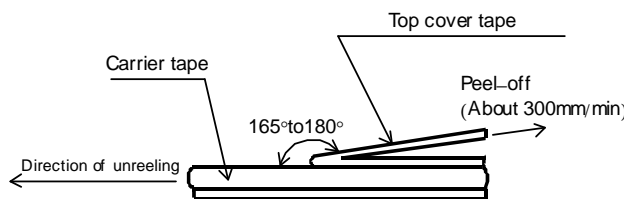
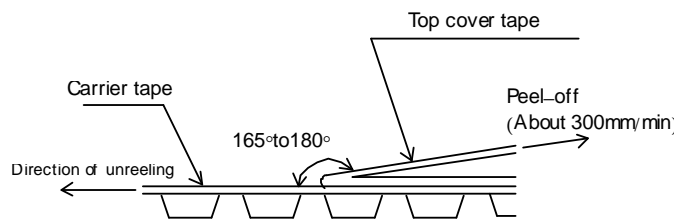

Figure-6
Figure-7
- 5). The peel strength of the top cover tape shall be with in 0.1N to 0.5N on the test method as shown in the following RMC10, 16, 20, 32: Figure-6, RMC35: Figure-7.